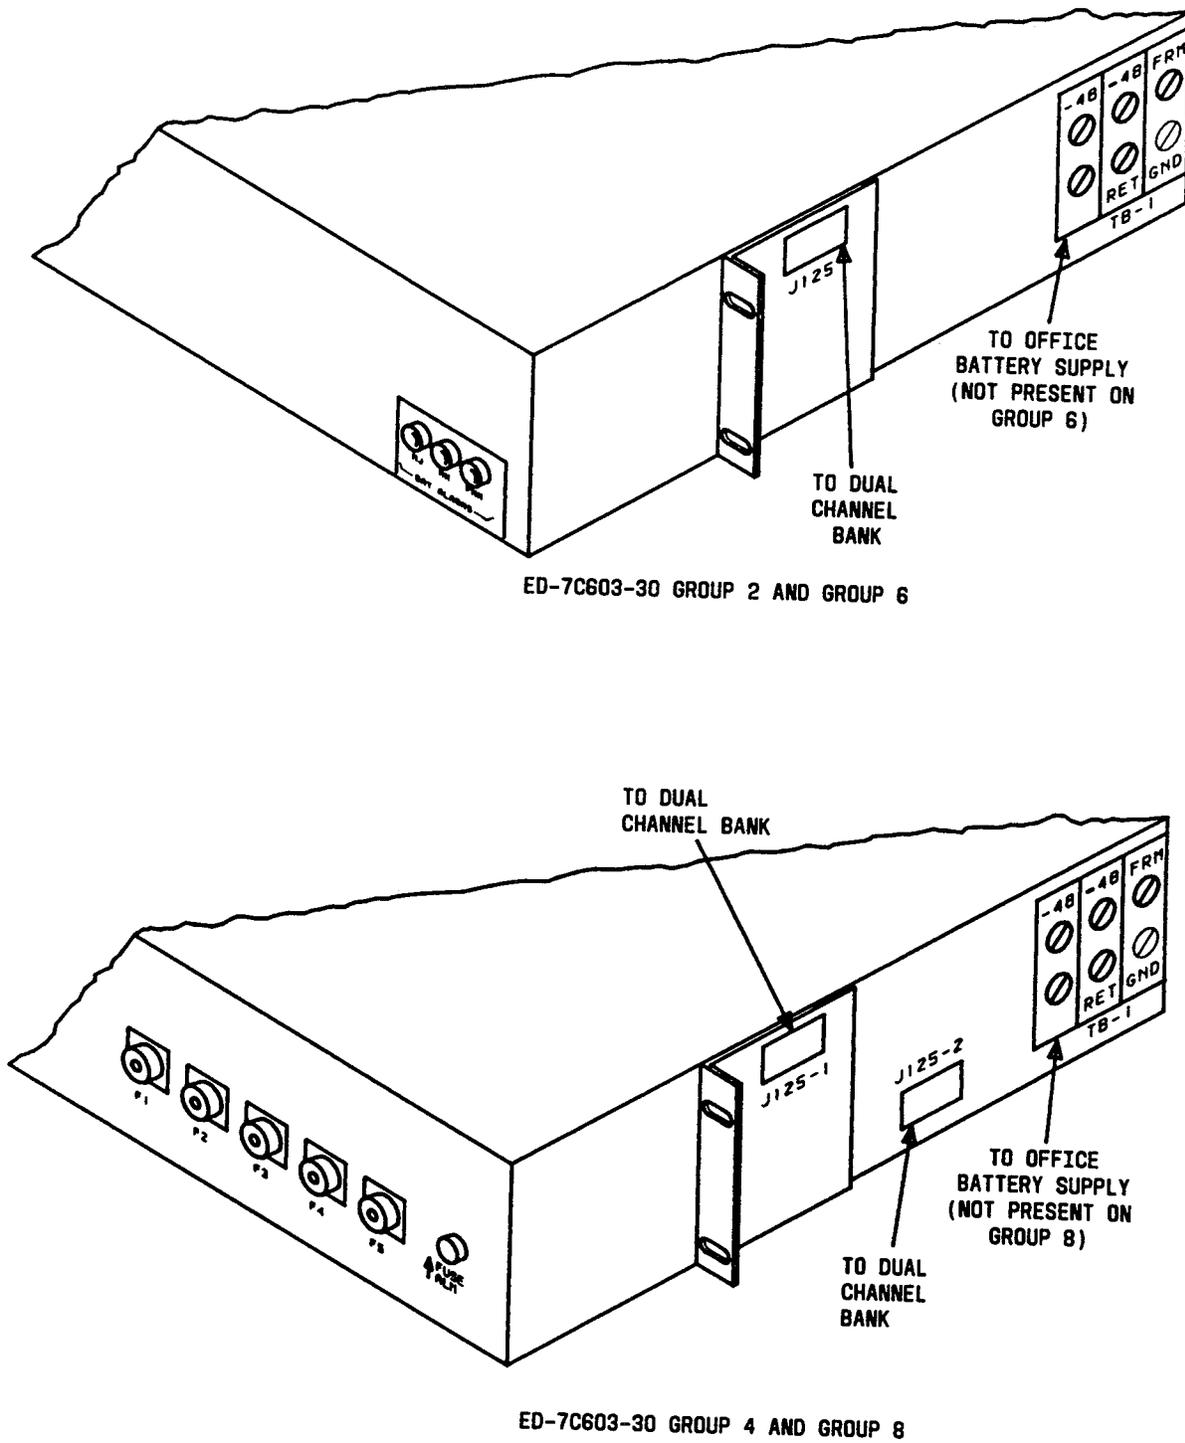

Figure 3—Heat Baffle Bank Connectors
19. Verify that dual bank connector(s) P121 or P125 is connected to heat baffle bank connector(s) J121-() or J125-(), respectively (FIG. 2 and FIG. 3). Refer any trouble to installation group.